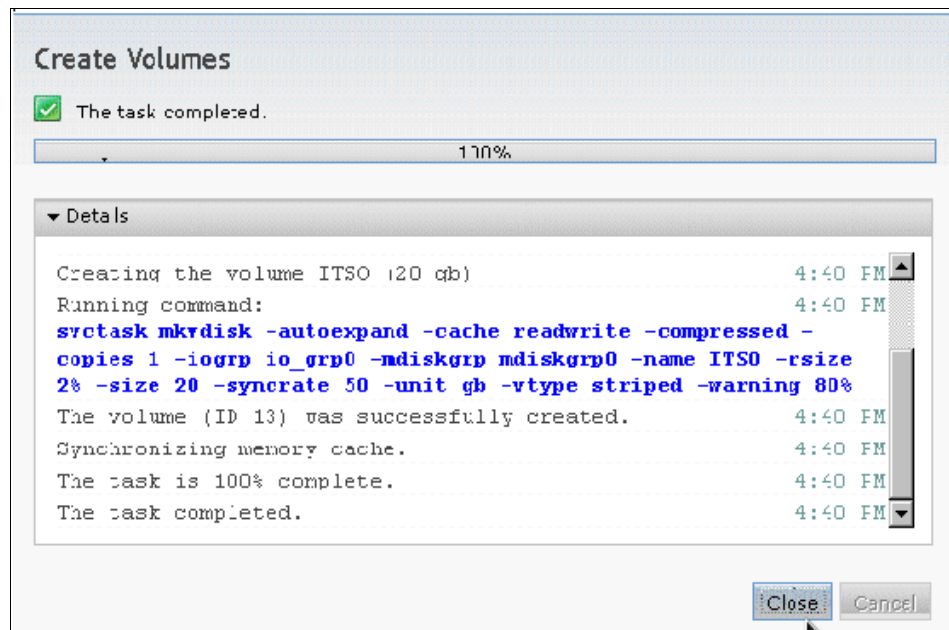

Figure 2-31 IBM Storwize V7000 Create Volumes task panel
- After the volume is created, click **Close**, as shown in Figure 2-31.